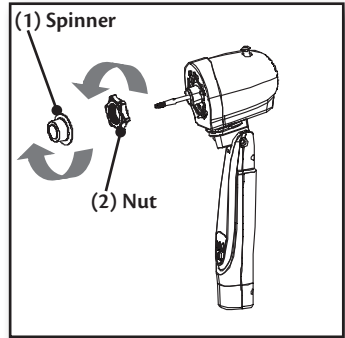

Figure 3.
1. Remove the Plastic Spinner (1) and the Plastic Nut (2) from the fan motor housing. **Figure 3.**